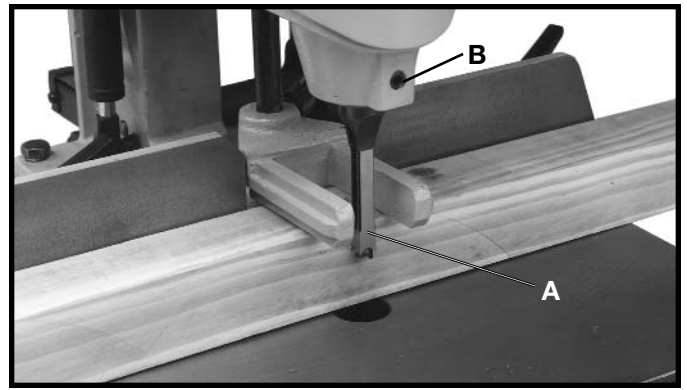

Fig. 26
The chisel (A) Fig. 26, can be adjusted parallel to the workpiece by loosening screw (B) and rotating chisel until the back surface of the chisel is touching workpiece. Then tighten screw (B).